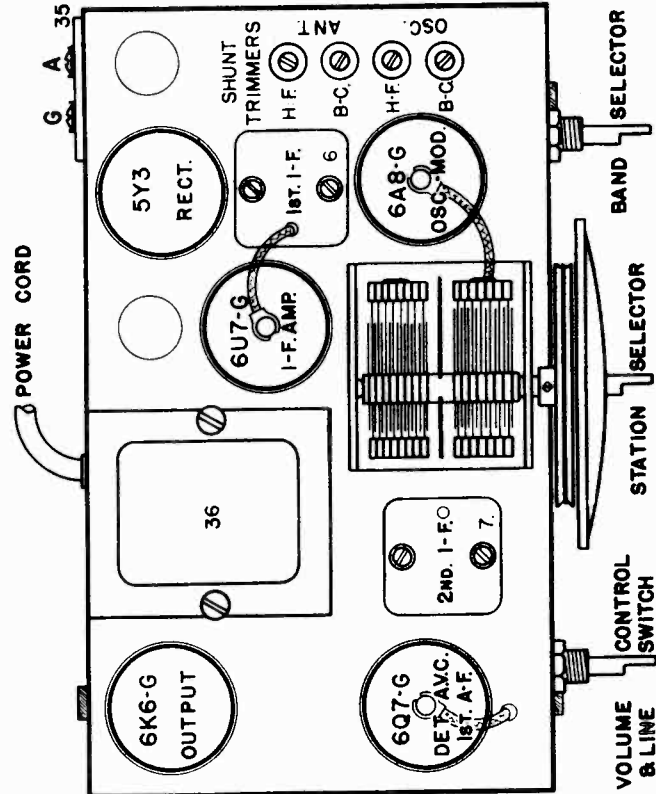

Fig. 2 Top View Model 567
- (b) Set the station selector so that the tuning condenser plates are completely out of mesh and turn the volume control knob to the right (ON).
- (e) Adjust both trimmers located on top of the 2nd I-F transformer for maximum output. See Fig. 2.